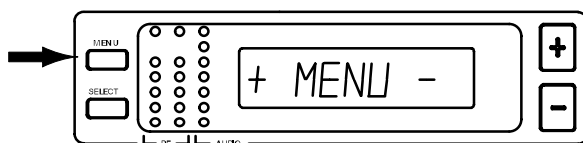

FIGURE 21
- Press the MENU button. The + MENU – display will appear, as shown in Figure 21.